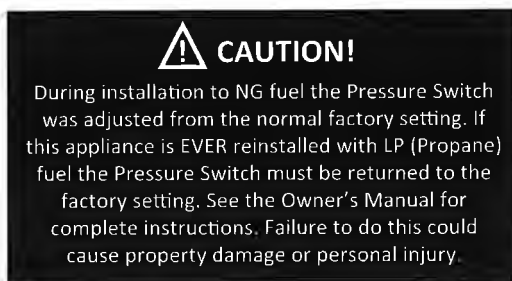

Fig. 37 – Caution Sticker
7. When the Pressure Switch set point is adjusted the appliance may not work properly if the unit is ever reinstalled on LP (Propane fuel). The "CAUTION" sticker (Fig. 37) is supplied in the hardware kit. You must install the "CAUTION" sticker on the appliance (Fig. 38).